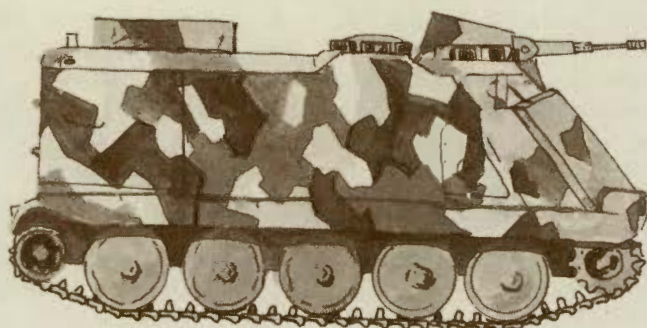

Figure 6
**Swedish Army Pattern** (figure 6): This is what camoufleurs call a "splinter" pattern, due to its sharp, angular configuration. It is not otherwise significantly different from the U.S. Army pattern (and performed about as effectively as the latter in the West Point test). Its principal drawback is the relative difficulty of application.